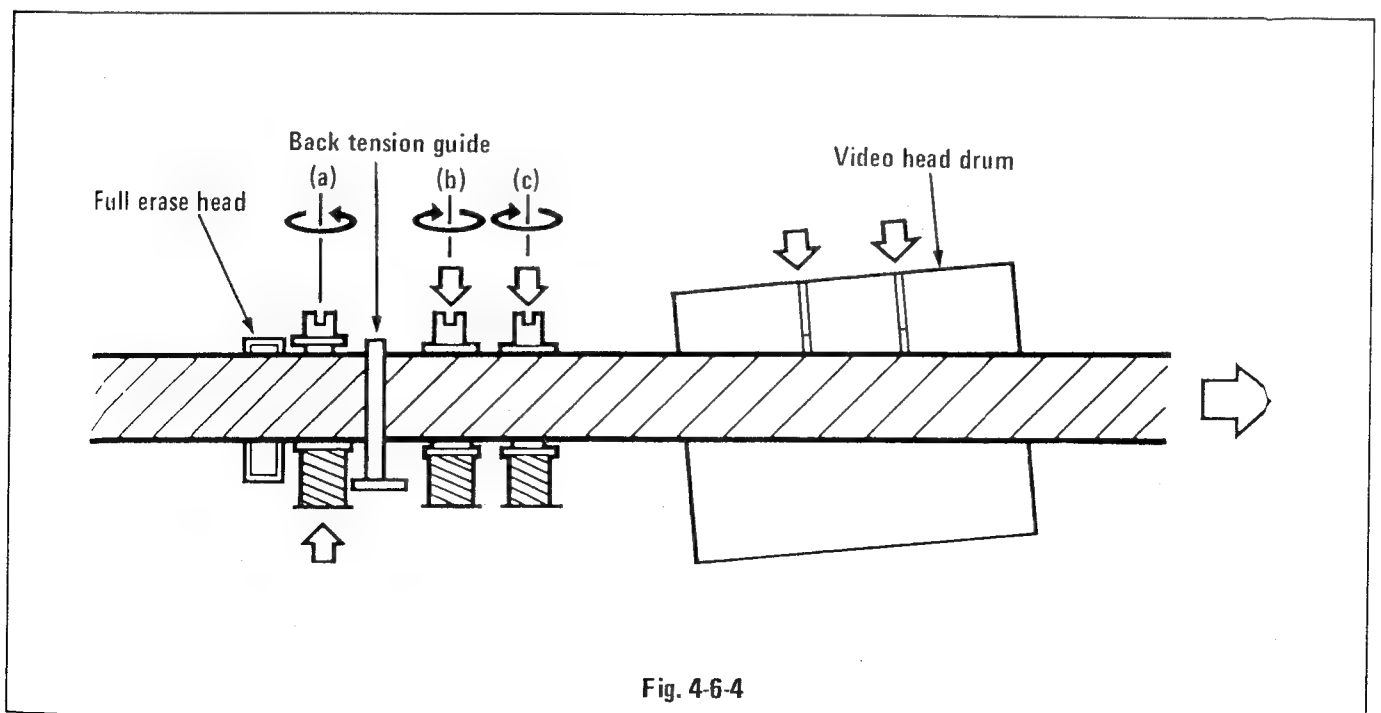

Fig. 4-6-4
- (4) While checking with the inspection mirror (VJ-0015), adjust tape guides (b) and (c) so that the upper flanges of the guides do not cause any creases in the tape, lowering both guide (b) and guide (c) equally in order to maximize the size of amplitude A. (See Fig. 4-6-4.)